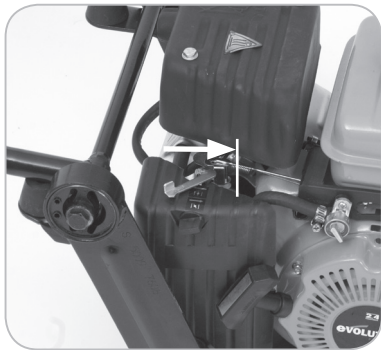

Fig. 5
- Set the choke lever to the 'Choke On' position. (**Fig. 5**)